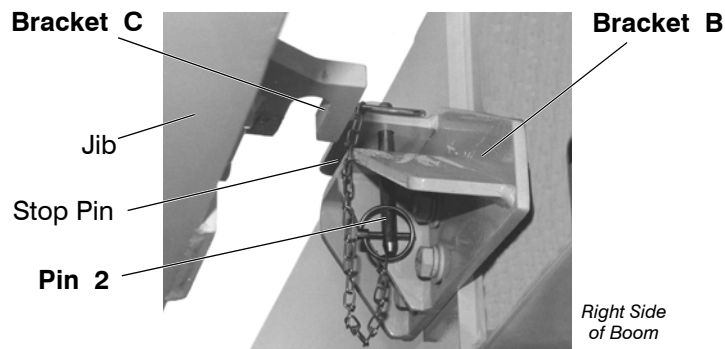

Figure 2-15 Typical Jib Brackets
- Remove **Pin 2** from **Bracket B** shown in Figure 2-15.
**Do not remove Pin 2 until Jib Pins (1) are installed on right side of boom head, otherwise, jib may fall from boom causing serious injury to personnel.**
- Extend the boom approximately nine inches so **Bracket C**, shown in Figure 2-15, is clear of **Bracket B**.